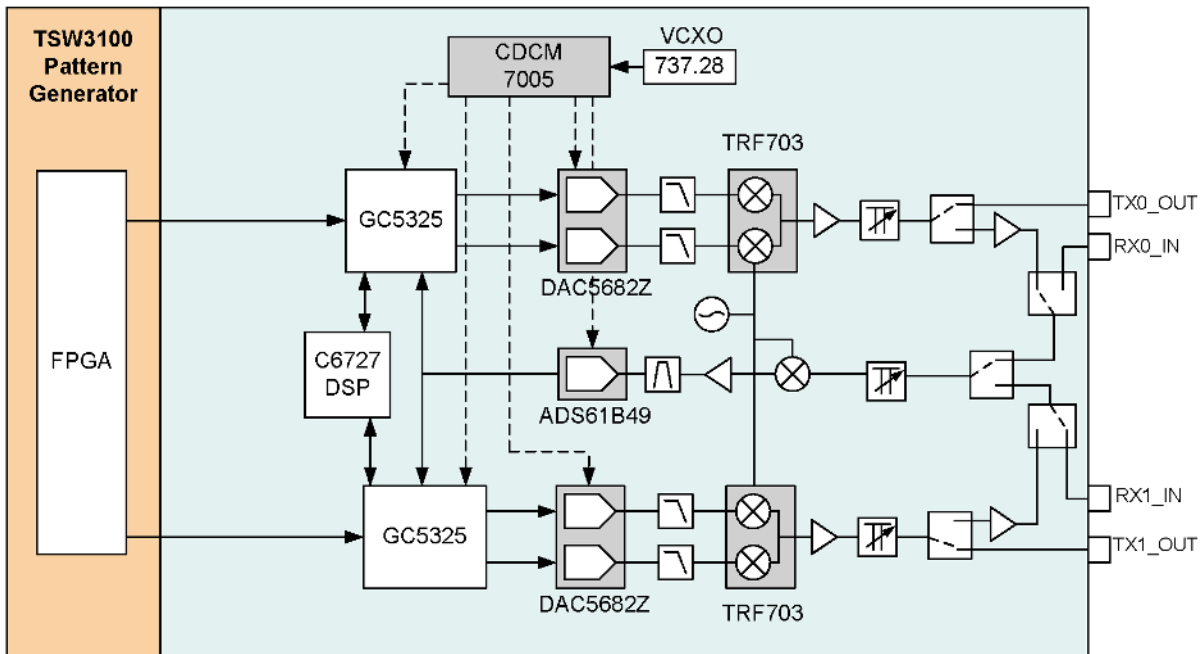

Figure 1. GC5325EVM Block Diagram
This document outlines the basic steps and functions that are required to ensure the proper operation of the GC5325 System Evaluation Kit (SEK) system. The GC5325 is a fully integrated crest-factor reduction (CFR), digital predistortion (DPD) device capable of linearizing a typical base-station power amplifier (PA). This guide can help users to quickly evaluate the performance of various PAs with varying system parameters, such as CFR levels and PA input/output power levels before and after the DPD. The GC5325 EVM has two GC5325 devices configured to provide two separate transmit paths and uses one ADC for feedback that is shared by both GC5325 parts. The block diagram for the GC5325SEK is shown Figure 1.